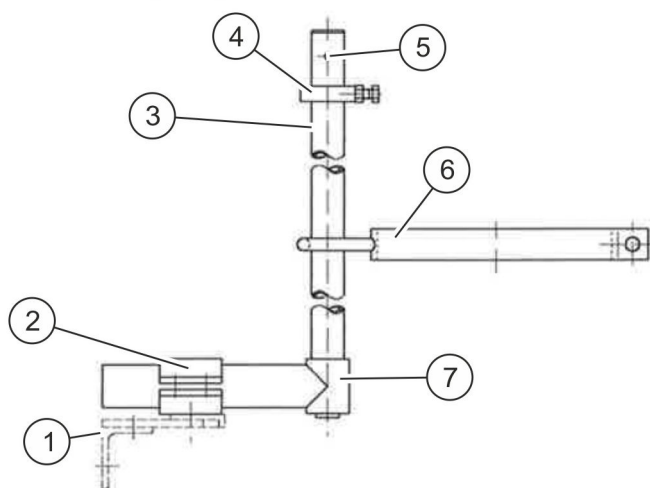

Fig. 28: Weight guide on the mast
3. ▶ Screw the clip (Fig. 28/2) into the slotted hole so that it moves easily.
4. ▶ Fasten the guide clip (Fig. 28/6) and adjusting ring (Fig. 28/4) on the guide tube (Fig. 28/3).
5. ▶ Guide the upper end of the guide tube (Fig. 28/3) into the bracket for the guide tube on the tensioning device.
6. ▶ Move the guide tube (Fig. 28/3) into the pipe clamp (Fig. 28/7) on the underside.
7. ▶ Position the guide ring and fasten it using the grooved cylindrical pin (Fig. 28/5).